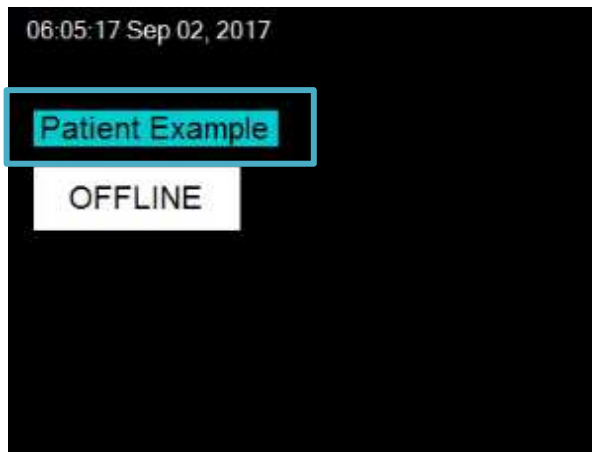

Figure 6-14. Patient Data.
- At the top left, Click on the Procedure Data to display the Procedure Data Option window, see Figure 6-14.